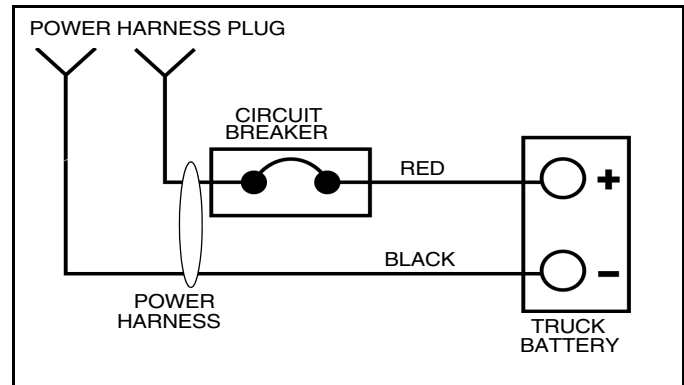

Figure 1-2
2. Mount the circuit breaker near the battery using (2) #10 x 1" self-tapping screws.
3. Attach the 2 ft. long power wire to the battery terminal of the circuit breaker and to the POS. (+) terminal of the battery. (See Figure 1-2).